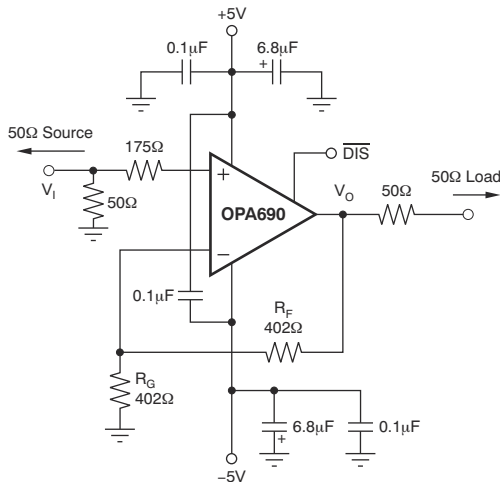
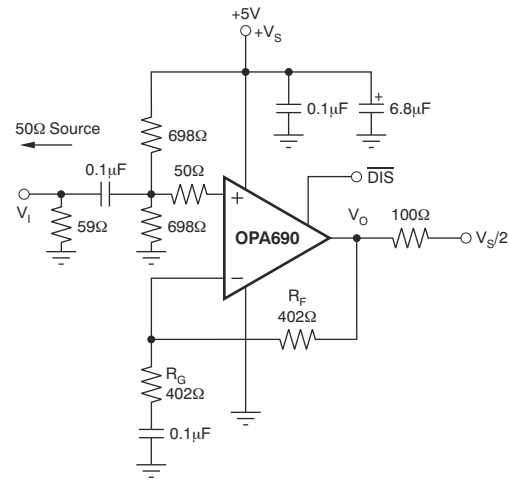

Figure 7-1. DC-Coupled, $G = 2\text{ V/V}$, Bipolar-Supply Specification and Test Circuit
Figure 7-2. AC-Coupled, $G = 2\text{ V/V}$, Single-Supply Specification and Test Circuit
at $T_A = 25^\circ C$, $G = 2$, $R_F = 402\Omega$, and $R_L = 100\Omega$ (unless otherwise noted); see Figure 7-1 for ac performance only
at $T_A = 25^\circ C$, $G = 2$, $R_F = 402\Omega$, and $R_L = 100\Omega$ (unless otherwise noted); see Figure 7-2 for ac performance only
Figure 7-1 shows the dc-coupled, gain of 2 V/V, dual power-supply circuit configuration used as the basis of the Section 6.11. For test purposes, the input impedance is set to 50 Ω with a resistor to ground and the output impedance is set to 50 Ω with a series output resistor. Voltage swings reported in the specifications are taken directly at the input and output pins, while output powers (dBm) are at the matched 50- Ω load. For the circuit of Figure 7-1, the total effective load is 100 Ω || 804 Ω . The disable control line is typically left open to maintain normal amplifier operation. An additional resistor (175 Ω) is included in series with the noninverting input. Combined with the 25- Ω DC source resistance looking back towards the signal generator, this gives an input bias current canceling resistance that matches the 200- Ω source resistance seen at the inverting input (see Section 8.1.8). In addition to the usual power-supply decoupling capacitors to ground, a 0.1- μ F capacitor is included between the two power-supply pins. In practical printed-circuit board (PCB) layouts, this optional-added capacitor typically improves the 2nd-harmonic distortion performance.
Figure 7-2 shows the AC-coupled, gain of 2, single-supply circuit configuration which is the basis of the 5 V and Section 6.12. Although not a rail-to-rail design, the OPA690 requires minimal input and output voltage headroom compared to other very wideband voltage-feedback op amps. The device delivers a 3- V_{PP} output swing on a single 5-V supply with > 120-MHz bandwidth. The key requirement of broadband single-supply operation is to maintain input and output signal swings within the useable voltage ranges at both the input and the output. The circuit of Figure 7-2 establishes an input midpoint bias using a simple resistive divider from the 5-V supply (two 698- Ω resistors). The input signal is then ac-coupled into the midpoint voltage bias. The input voltage can swing
Voltage-feedback op amps exhibit decreasing closed-loop bandwidth as the signal gain is increased. In theory, this relationship is described by the gain bandwidth product (GBP) shown in Section 6.5 and Section 6.7. Ideally, dividing GBP by the noninverting signal gain (also called the noise gain, or NG) predicts the closed-loop bandwidth. In practice, this relationship only holds true when the phase margin approaches 90°, as in high-gain configurations. At low gains (increased feedback factors), most amplifiers exhibit a more complex response with lower phase margin. The OPA690 is compensated to give a slightly peaked response in a noninverting gain of 2 V/V (see Figure 7-1). This compensation results in a typical gain of 2 bandwidth of 220 MHz, far exceeding that predicted by dividing the 300 MHz GBP by 2. Increasing the gain causes the phase margin to approach 90° and the bandwidth to more closely approach the predicted value of (GBP/NG). At a gain of 10, the 30-MHz bandwidth shown in the $\pm 5\text{-V}$ *Electrical Characteristics* agrees with that predicted using the simple formula and the typical GBP of 300 MHz.
The frequency response in a gain of 2 V/V can be modified to achieve exceptional flatness by simply increasing the noise gain to 2.5. One method, without affecting the two signal gain, is to add an 804- Ω resistor across the two inputs in the circuit of Figure 7-1. A similar technique can be used to reduce peaking in unity-gain (voltage-follower) applications. For example, by using a 402- Ω feedback resistor along with a 402- Ω resistor across the two op amp inputs, the voltage follower response is similar to the gain of 2 response of Figure 7-2. Reduce the value of the resistor across the op amp inputs to further limit the frequency response due to increased noise gain.
The OPA690 is a general-purpose, wideband voltage-feedback op amp; therefore, all of the familiar op amp application circuits are available to the designer. Inverting operation is one of the more common requirements and offers several performance benefits. Figure 8-1 shows a typical inverting configuration where the I/O impedances and signal gain from Figure 7-1 are retained in an inverting circuit configuration.
The second major consideration, touched on in the previous paragraph, is that the signal source impedance becomes part of the noise gain equation and influences the bandwidth. For the example in Figure 8-1, the R_M value combines in parallel with the external 50- Ω source impedance, yielding an effective driving impedance of $50 \Omega \parallel 67 \Omega = 28.6 \Omega$. This impedance is added in series with R_G for calculating the noise gain (NG). The resultant NG is 2.8 for Figure 8-1, as opposed to only 2 if R_M can be eliminated as discussed previously. Therefore, the bandwidth is slightly less for the circuit of Figure 8-1 than for the gain of 2 circuit of Figure 7-1.
A good practice is to target the parallel combination of R_F and R_G (see Figure 7-1) to be less than approximately 300 Ω . The combined impedance $R_F \parallel R_G$ interacts with the inverting input capacitance, placing an additional pole in the feedback network, and thus, a zero in the forward response. Assuming a 2-pF total parasitic on the inverting node, holding $R_F \parallel R_G < 300 \Omega$ keeps this pole greater than 250 MHz. Alone, this constraint implies that the feedback resistor R_F can increase to several k Ω at high gains. This result is acceptable as long as the pole formed by R_F and any parasitic capacitance appearing in parallel is kept out of the frequency range of interest.
The OPA690 provides good distortion performance into a 100- Ω load on ± 5 -V supplies. Relative to alternative solutions, this device provides exceptional performance into lighter loads, while operating on a single 5-V supply. Increasing the load impedance improves distortion directly. Remember that the total load includes the feedback network; in the noninverting configuration (see Figure 7-1), this total load is sum of $R_F + R_G$, while in the inverting configuration the total load is just R_F . Also, providing an additional supply-decoupling capacitor (0.1 μ F) between the supply pins (for bipolar operation) improves the 2nd-order distortion.
Evaluating these two equations for the OPA690 circuit and component values (see Figure 7-1) gives a total output spot noise voltage of 12.3 nV/√Hz and a total equivalent input spot noise voltage of 6.1 nV/√Hz. This is including the noise added by the bias current cancellation resistor (175 Ω) on the noninverting input. This total input-referred spot noise voltage is only slightly higher than the 5.5-nV/√Hz specification for the op amp voltage noise alone. This is the case as long as the impedances appearing at each op amp input are limited to the previously recommend maximum value of 300 Ω. Keeping both (R_F || R_G) and the noninverting input source impedance less than 300 Ω satisfies both noise and frequency response flatness considerations. Because the resistor-induced noise is relatively negligible, additional capacitive decoupling across the bias current cancellation resistor (R_B) for the inverting op amp configuration of Figure 8-1 is not required.
The balanced input stage of a wideband voltage-feedback op amp allows good output dc accuracy in a wide variety of applications. Although the high-speed input stage does require relatively high input bias current (typically $\pm 8 \mu\text{A}$ at each input terminal), the close matching can be used to reduce the output dc error caused by this current. The total output offset voltage can be considerably reduced by matching the dc source resistances appearing at the two inputs. This matching reduces the output dc error due to the input bias currents to the offset current times the feedback resistor. Evaluating the configuration of Figure 7-1, and using worst-case 25°C input offset voltage and current specifications, gives a worst-case output offset voltage equal to:
As a worst-case example, compute the maximum T_J using an OPA690-DBV (6-pin SOT-23 package) in the circuit of Figure 7-1 operating at the maximum specified ambient temperature of 85°C and driving a grounded 20-Ω load.
Both the input signal and the gain setting resistor are ac-coupled using 0.1- μ F blocking capacitors (actually giving band-pass response with the low-frequency pole set to 32 kHz for the component values shown). As discussed for Figure 7-2, this allows the midpoint bias formed by the two 1.87-k Ω resistors to appear at both the input and output pins. The midband signal gain is set to 4 (12 dB) in this case. The capacitor to ground on the noninverting input is intentionally set larger to dominate input parasitic terms. At a gain of 4, the OPA690 on a single supply shows approximately 80-MHz small- and large-signal bandwidth. The resistor values are slightly adjusted to account for this limited bandwidth in the amplifier stage. Tests of this circuit show a precise 5-MHz, -3-dB point with a maximally flat pass band (greater than the 32-kHz ac-coupling corner), and a maximum stop-band attenuation of 36 dB at the -3-dB bandwidth of 80 MHz of the amplifier.